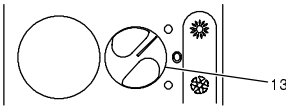

fig. 2.5
- 4 If domestic hot water supply only is required, position the function switch (13) as in fig. 2.5 (Combination boilers).